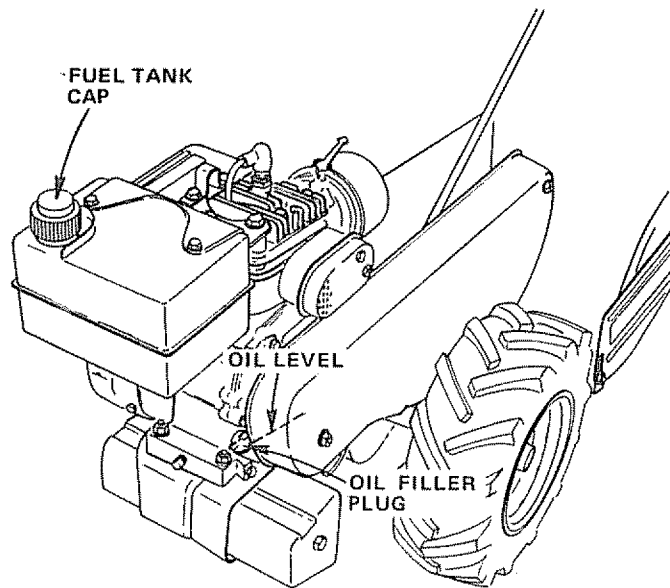

FIGURE 9
- a. Remove Engine Oil Filler Plug (Fig. 9).
2. Fill Fuel Tank (Fig. 9). Use fresh, clean, unleaded automotive gasoline. (Leaded "Regular" grade gasoline is an acceptable substitute, but will increase carbon and lead oxide deposits and reduce valve life). Capacity is 2 quarts.